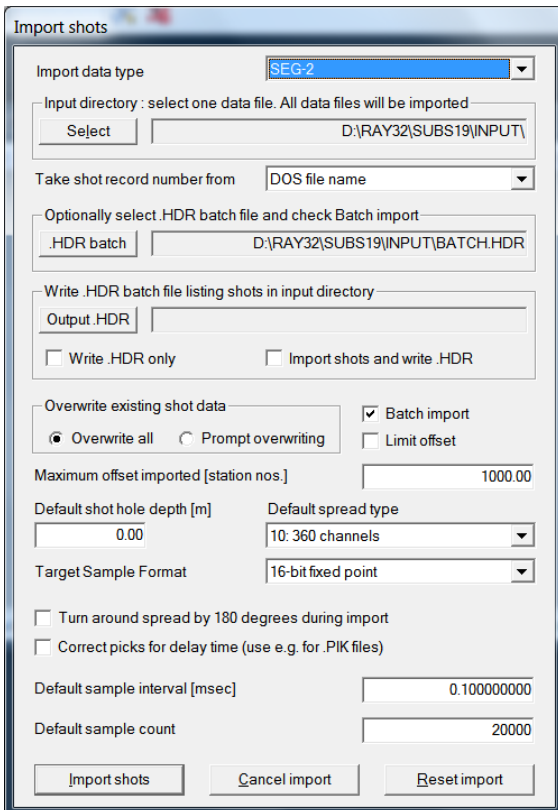

Fig. 5 : import shots with File|Import Data ...
- select *File|Import Data...* and set *Import data type* to SEG-2 . See Fig. 5.
- check box *Batch import* and click radio button *Overwrite all* . See Fig. 5.